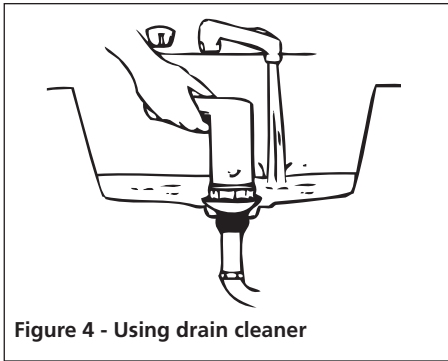

Figure 4 - Using drain cleaner
9. With water at the drain opening, press the drain cleaner firmly into the drain opening, squeeze and quickly release the gun trigger (see Figure 4).